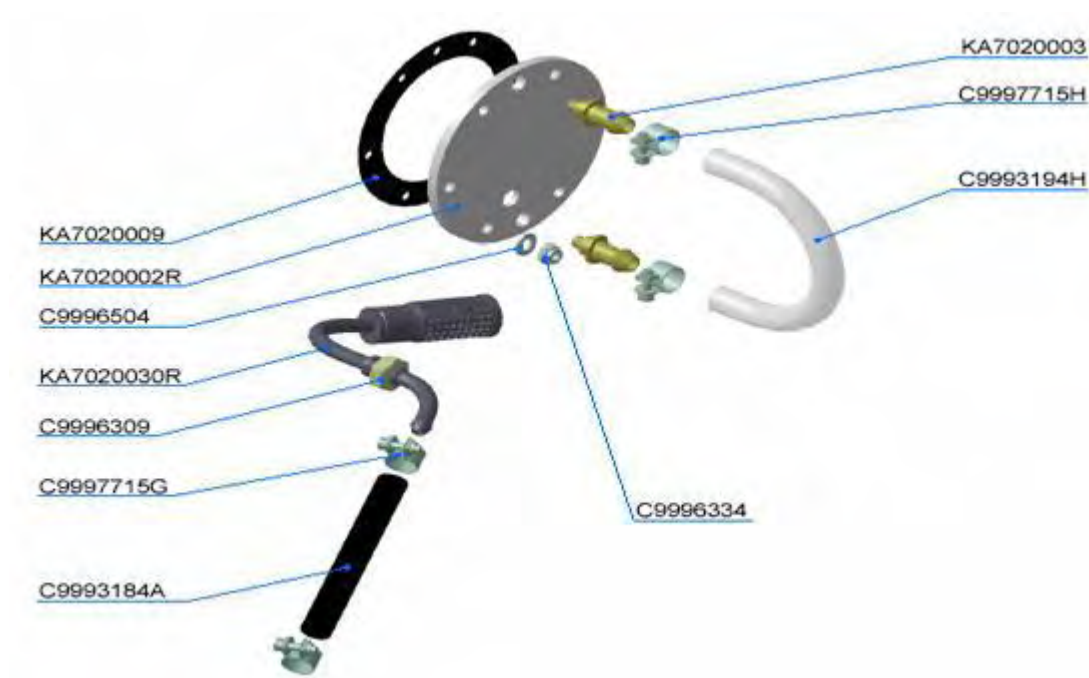

Fig. 2
The fuel tank is closed by the access panel from the cabin side KA7020002R (L) (Fig. 2). Inspect the access panel and fuel level indicator for leaks before every flight. If found - tighten the screws on the clamps or nuts and the access panel.